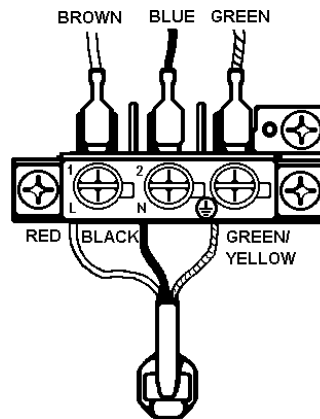

Fig.2
- **Do not** remove the screws from the earth tab extending from the oven main terminal block (Fig2)
- Make connection as shown in Fig 2 by proceeding as follows:-
- Clamp bare wires into the relevant terminal (fig 2) and check they are held by tugging each one in turn.